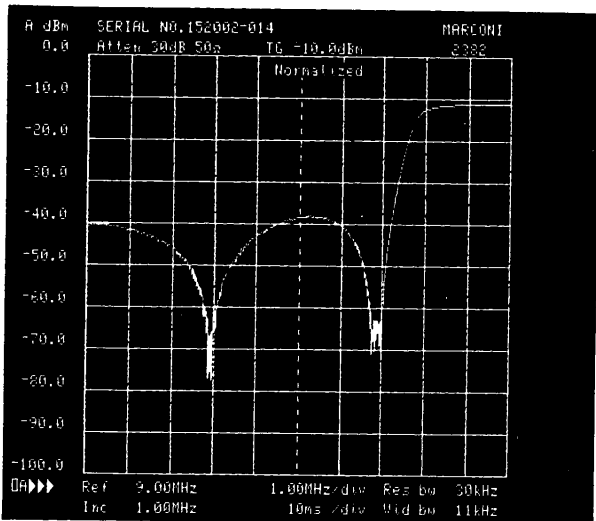

Fig. 3-17 Frequency response of a filter using the NORMALIZE facility
Press PRESET and key in the frequency span required by using the SPAN/DIV key [13] and the DATA keypad (1 MHz/div in this example). Press REF FREQ and key in the centre frequency to be used in the same way (9 MHz). Press TRACK GEN to select the tracking generator and if necessary reset its output level using the 2nd FUNCT then REF LEVEL (SET TG) keys and the data keypad; refer to '2382 Control Functions' [35]. Press NORMALIZE [6] causing the amber key-light to come on. The annotation 'Connect test fixture then press NORMALIZE' appears in the data entry area of the screen. As instructed, connect the test fixture or connecting leads between the TRACKING GENERATOR output (Fig. 3-1 (4)) and the analyzer INPUT. The screen displays the frequency response of the test fixture and cables. Press NORMALIZE again. The displayed message changes to 'Normalized' and a single sweep at the bottom of the screen is executed. Connect the device to be tested (in this case a 10 MHz high-pass filter) into the test fixture. The resulting response is now that for the device only – the effects of the extraneous circuitry being nullified (refer to Fig. 3-17). But note that from now on the incoming signal is normalized to the tracking generator level (default -10 dBm). Clear down the function and return to normal operation by pressing NORMALIZE again causing the key-light to go out.